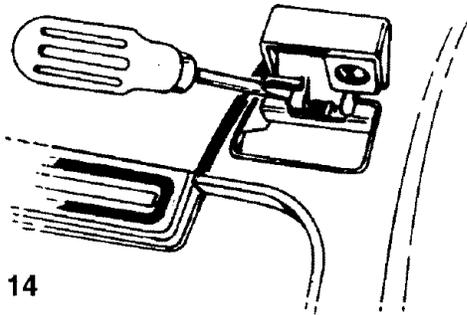

Fig. 14
1. Open door and pry outward on either side to release one pin and remove. (Fig. 14)